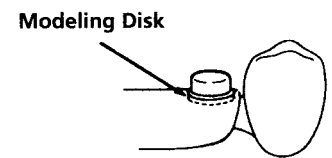

Fig. 19
6. Place the modeling disk over the representation of the cylindrical blockout sleeve on the refractory model. The modeling disk becomes part of the framework pattern. It will create a precise opening for the male (Fig. 19).